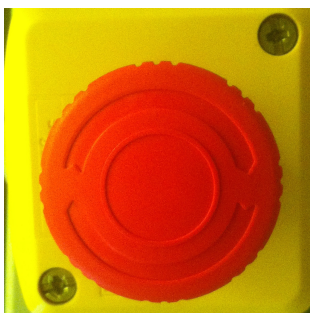

Figure 2: Emergency button to open the doors.
- If the doors in the cleanroom/service corridor are locked, press the red buttons (see Figure 2) and the doors will open.